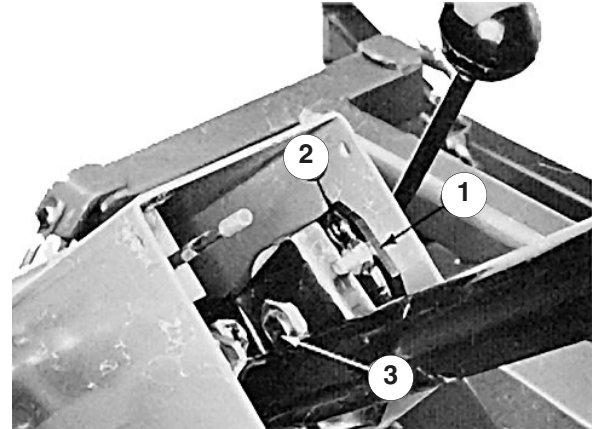

Figure 41
1. Remove the knob from the parking brake and the self-tapping screws from the steering column cover. Slide the cover up the steering shaft to expose the pivot bracket (Fig. 41).
2. Loosen the small nut, rotate pivot bracket until it tightens the large nut below (Fig. 41). Retighten the small nut.